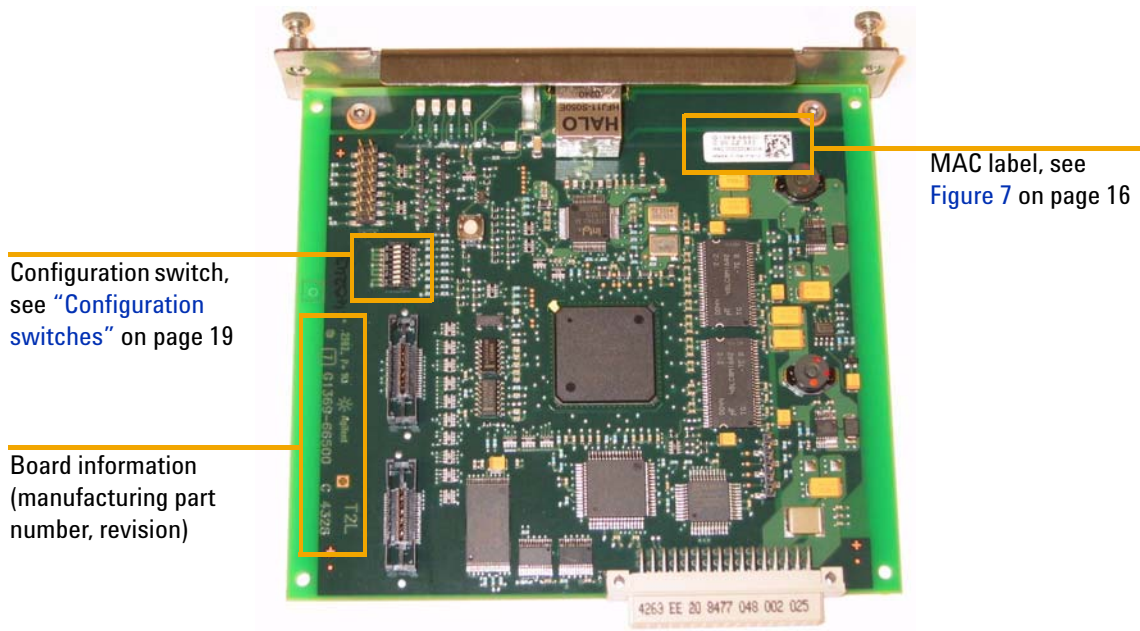

Figure 6 Board Layout
- 2 Note the MAC (Media Access Control) address for further reference. The MAC or hardware address of the LAN Interface is a world wide unique identifier. No other network device will have the same hardware address. The MAC address can be found on a label on the card (see Figure 6 on page 15).